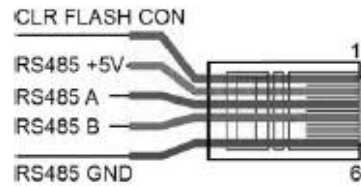

Fig.4 - pin assignment of the RJ11 connector - RS-485 Modbus.
3. Connect the lines of the RS-485 interface to the RJ11 connector according to the fig. 4.